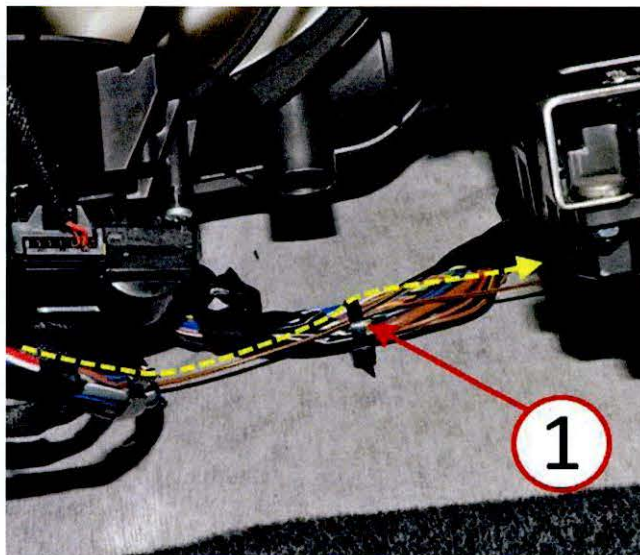
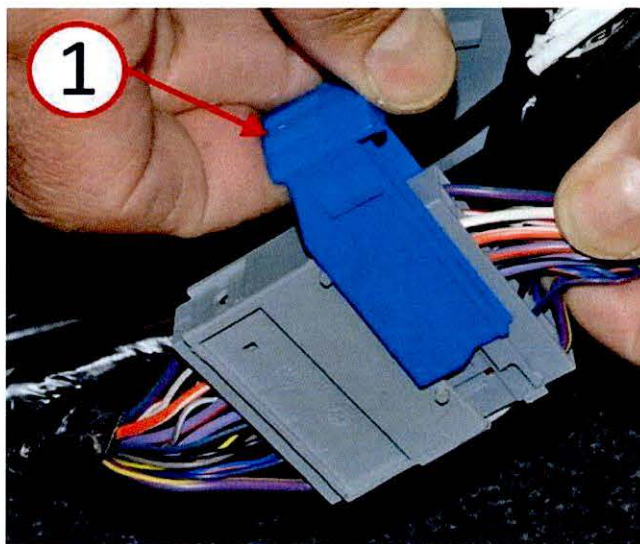

***Fig. 19 Right Hand Heated Mirror Wire Routing Driver Side***
**Fig. 20 Right Heated Mirror Wire Routing Passenger Side**
24. Guide the longer F814 BR-BK heated mirror wire through the instrument panel structure following the route of the front body wire harness to the passenger door inline electrical connector C154. Use cable ties to secure the longer F1814 BR-BK wire to the front body main wire harness bundle (Fig. 19) and (Fig. 20).